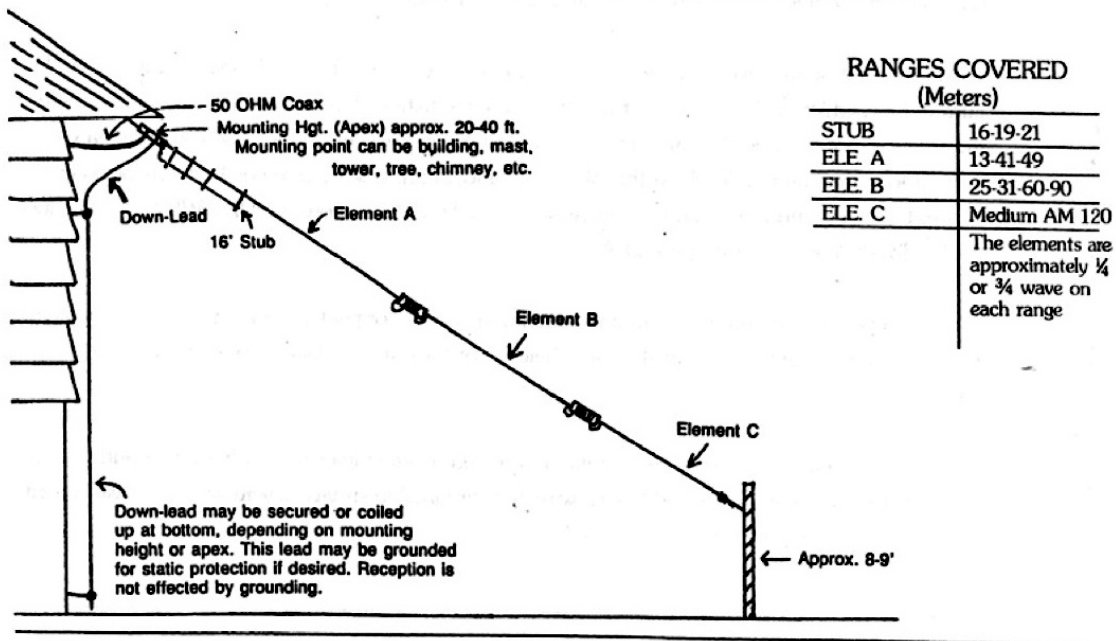

FIGURE 2
3. **Refer to FIG. 2.** Installation heights ranging from about 20-40 ft. on the high end and about 8-10 ft. on the low end all seem to work quite well since these heights take advantage of a ground (earth) capacitive loading effect which provides broad-banding, and essentially an omni-directional pattern. As a result, you can run the antenna wire down slope in any direction convenient to the installation site. These heights and the slope shown provide excellent reception characteristics across the HF shortwave spectrum. The slope angle should be from about 45 to 60 degrees for best performance.